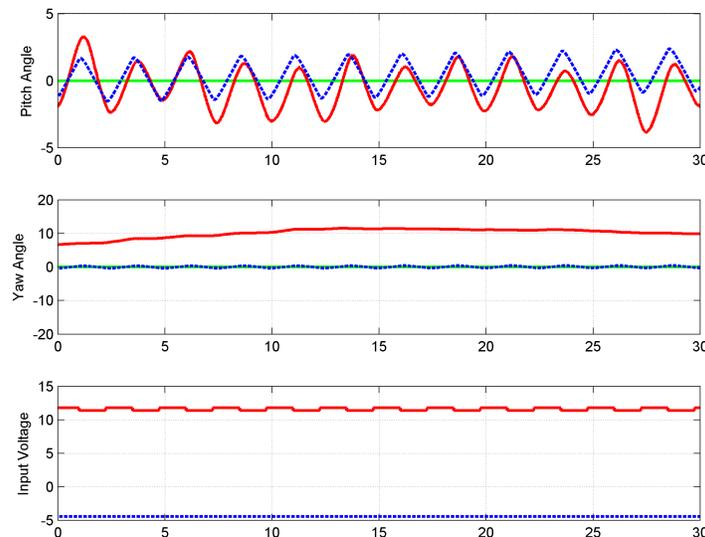

Figure 5.21: Open-loop pitch step
- In the *Desired Voltage* subsystem, set the frequency of the *Signal Generator: Pitch (V)* block to 0.4 Hertz, the *Amplitude: Pitch (V)* gain block to 0.2, and the *Constant Pitch (V)* to 0.
- As shown in Figure 5.21, the measured and simulated pitch angles are quite close. The pitch viscous damping term B_p was estimated by tuning its value online as the controller is running. To do this enter a value for B_p in the Matlab command window, for example $B_p = 0.8$. Because the parameter change is made in Matlab (and not directly in the Simulink model), the controller that is running must be updated for the changes of this parameter to take effect. The change can be applied by clicking on the *Edit* menu in the Simulink model and selecting the *Update Diagram* item. Alternatively, controller parameters can be updated by use the keystroke CTRL-D whenever the Simulink model is active.